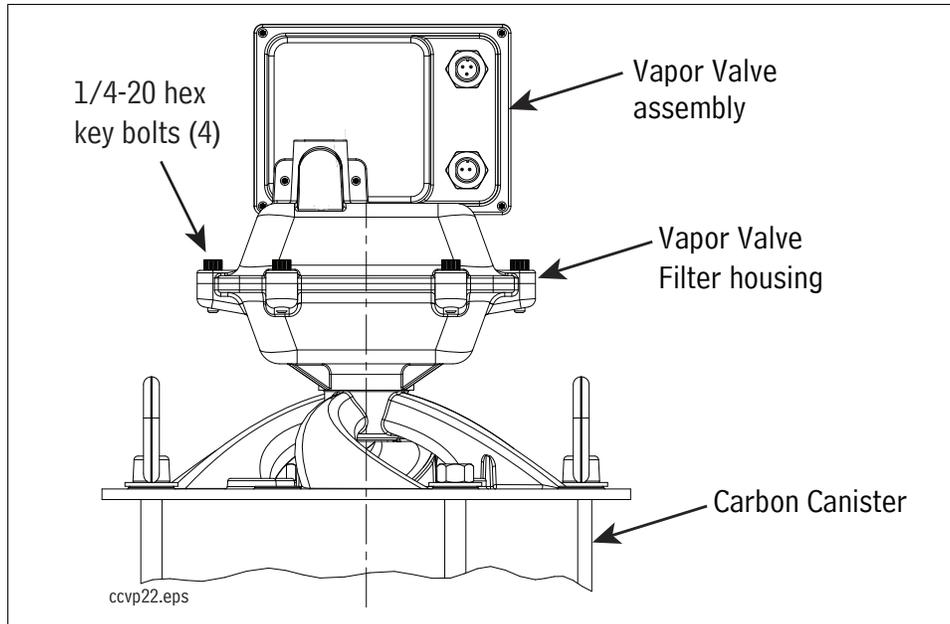

Figure 13. Removing Vapor Valve assembly
2. Remove the four 1/4 -20 x 1" hex key bolts from the top of the Vapor Valve Filter housing (see Figure 13)